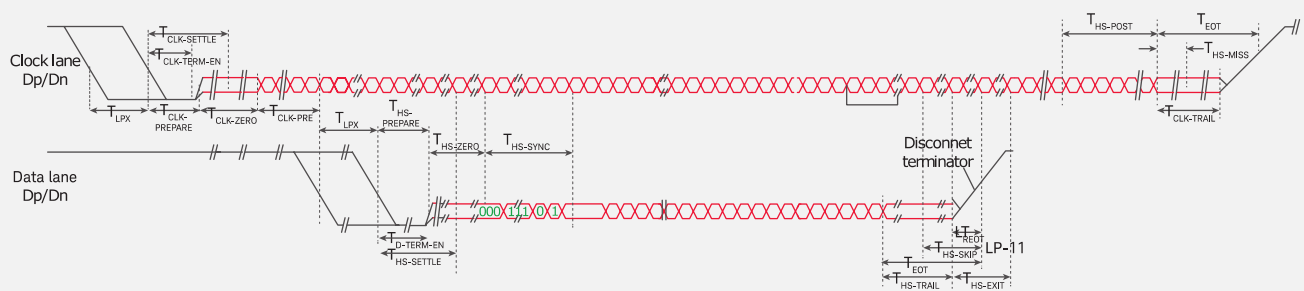

Figure 1. Timing Diagram of D-PHY showing transitions from Low Power Mode to High Speed Mode and back.
As depicted in Figure 1 above, the MIPI D-PHY standard which supports the applications CSI (for Camera) and DSI (for Display), uses different signaling levels and data formats in Low Power (LP) and High Speed (HS) mode. In LP mode the two wires are not terminated and used as independent single ended wires. For HS data transmission, D-PHY uses differential signaling with NRZ format 100  $\Omega$  termination. It is obvious that the generation of test patterns used for receiver testing is a real challenge. Traditional BERTs using NRZ pattern format cannot generate such 4-level D-PHY signals. AWGs can generate any signal; however, customers may not want to deal with the necessary generation of the waveform (vector) files.